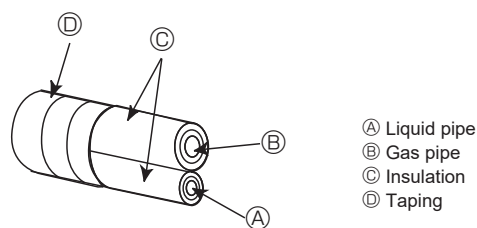
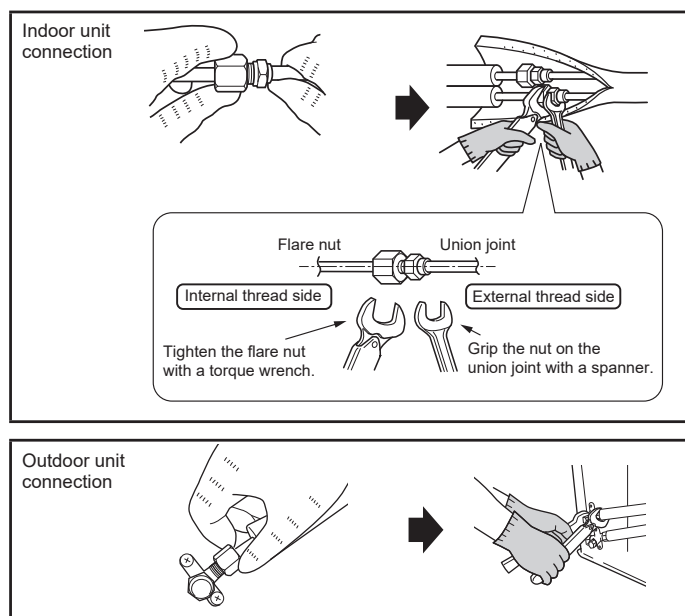

Fig. 4-5
Fig. 4-6
4.3. Connecting pipes (Fig. 4-5, Fig. 4-6)
Ⓐ (Fig. 4-6)